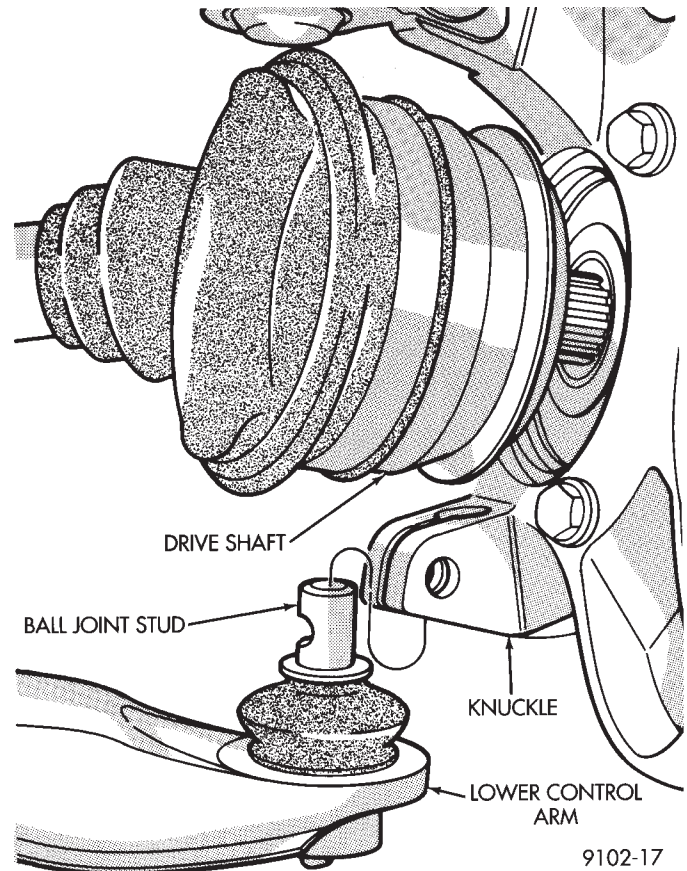

Fig. 13 Installing Knuckle Assembly
(5) Insert driveshaft through hub and bearing assembly, while installing steering knuckle assembly on lower control arm ball joint stud (Fig. 13).